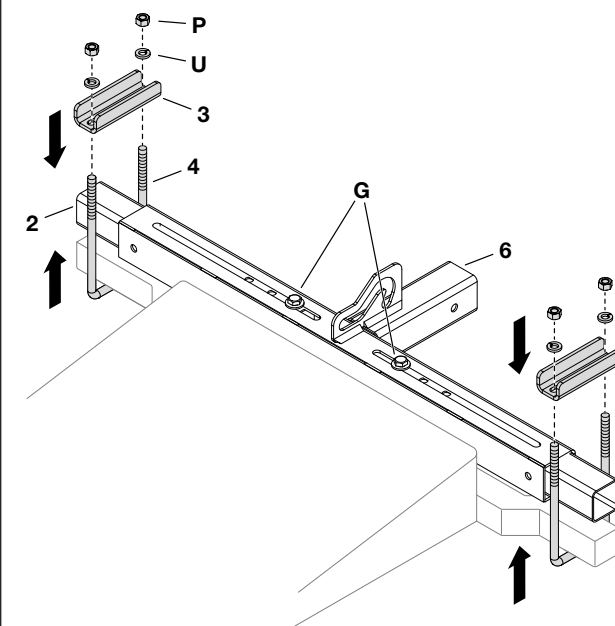

Figure 2
STEP 2: (SEE FIGURE 2)
- Attach the hitch mount assembly (6) to the tractor frame using two U-bolts (4) secured with two mounting brackets (3), four washers (U), and four Nylock hex nuts (P). Do not tighten.
- If the slider tube does not fully extend into both U-bolts (4), then loosen the appropriate hex bolt (G) and reposition the slider tube (2).